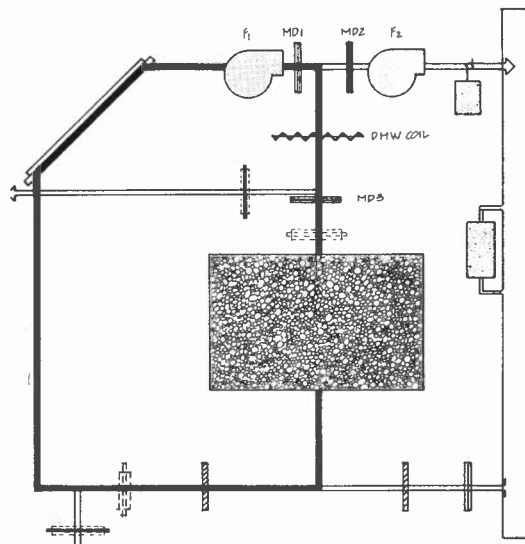

Figure 8.4 Domestic Hot Water Mode
**FIG. 8.4 DOMESTIC HOT WATER:** When the collector temperature reaches a point  $40^\circ\text{F}$  higher than the water in the pre-heat tank ( $\Delta T_{HW}$ ), the system enters the "Collector to Storage" mode. The pump turns on to circulate the water from the pre-heat tank through the heat exchanger coil that is located in the return duct. The water in the coil picks up the heat from the hot air drawn down from the collector.